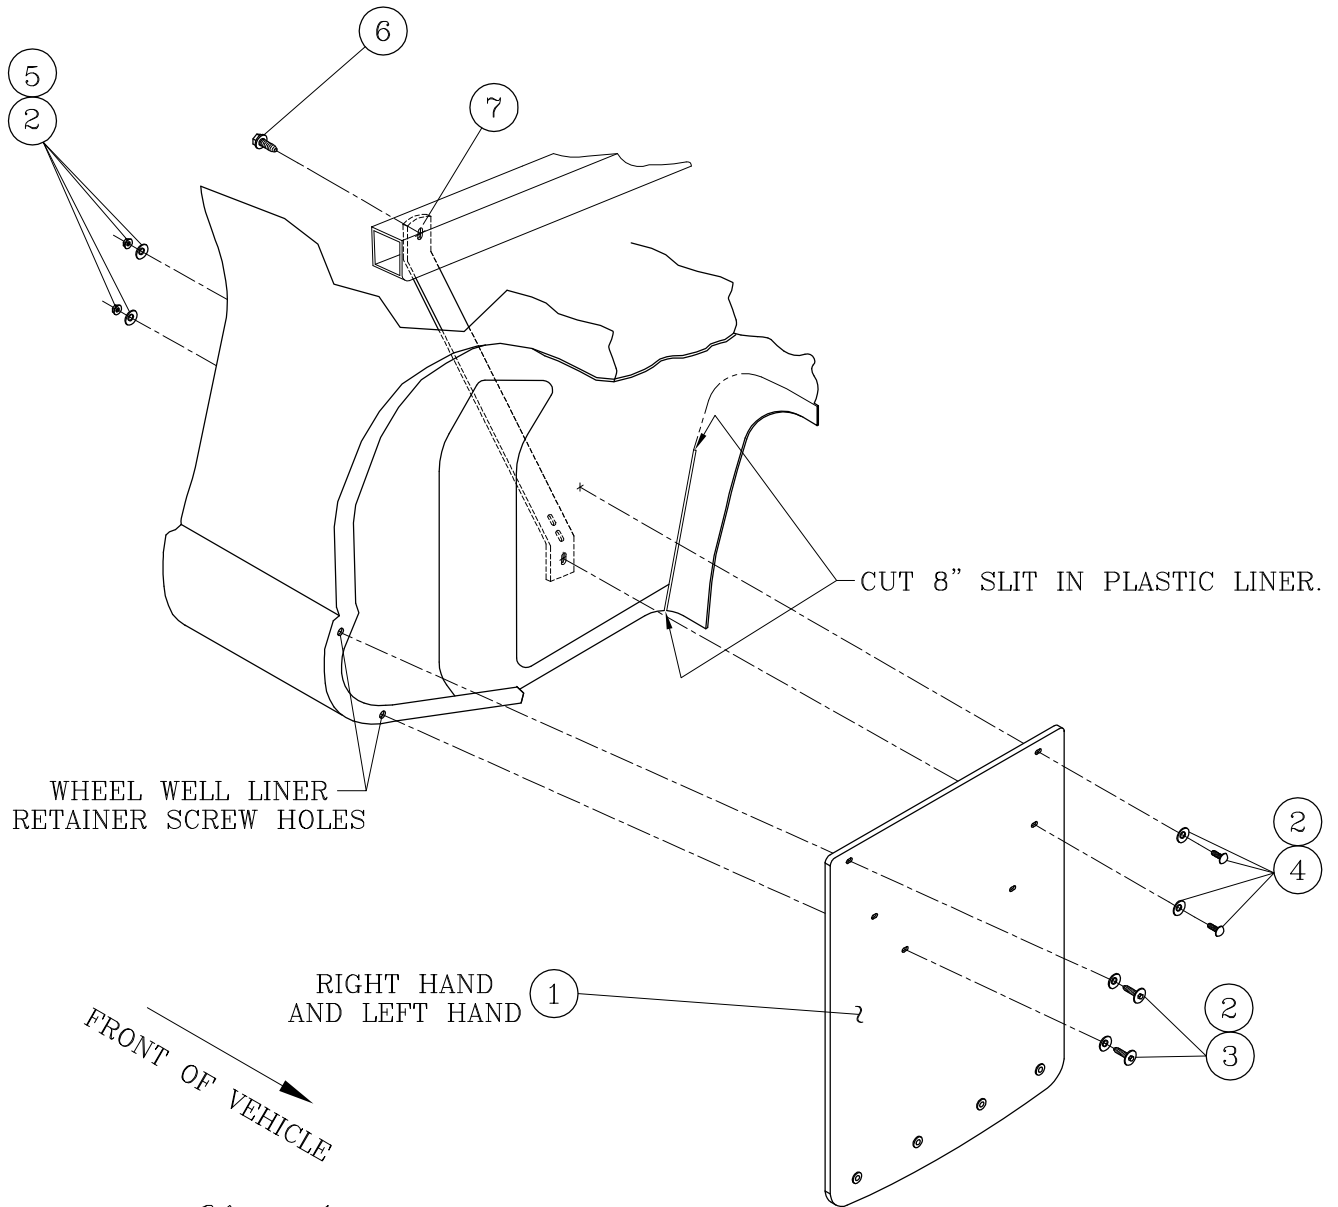

fig.1
- 3.1 REMOVE THE FACTORY WHEEL WELL RETAINING SCREWS FROM THE WHEEL WELL FLANGE, CUT AN 8" SLIT IN THE CORNER OF THE WHEEL WELL LINER FOR THE MUD GUARD TO SLIDE INTO PLACE AS SHOWN IN (FIG 1). POSITION THE MUD GUARD AGAINST THE WHEEL WELL FLANGE AND REPLACE THE FACTORY RETAINING SCREWS WITH (ITEM #3) SEMS SCREW M4.8 X 25MM. MOVE MUD GUARD IN OR OUT AS DESIRED, LEVEL THE MUD GUARD AND TIGHTEN SEM SCREWS.
- 3.3 PLACE BRACKET (ITEM #7) UP AGAINST BOX STIFFENER AS SHOWN IN (FIG 1) USING THE HOLE IN BRACKET TO DRILL A 3/16" PILOT HOLE INTO STIFFENER AND SCREW IN A ¼" X ¾" THREAD FORMING SCREW (ITEM #6). AS SHOWN.